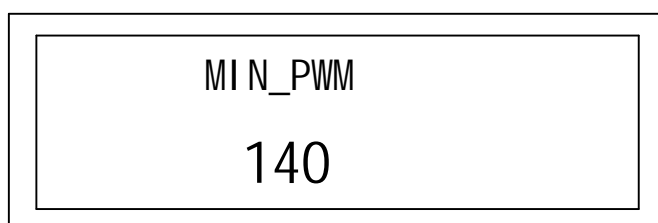

Fig.7: MIN_PWM setup
2)、MIN_PWM: MIN_PWM setup. Fig.7.